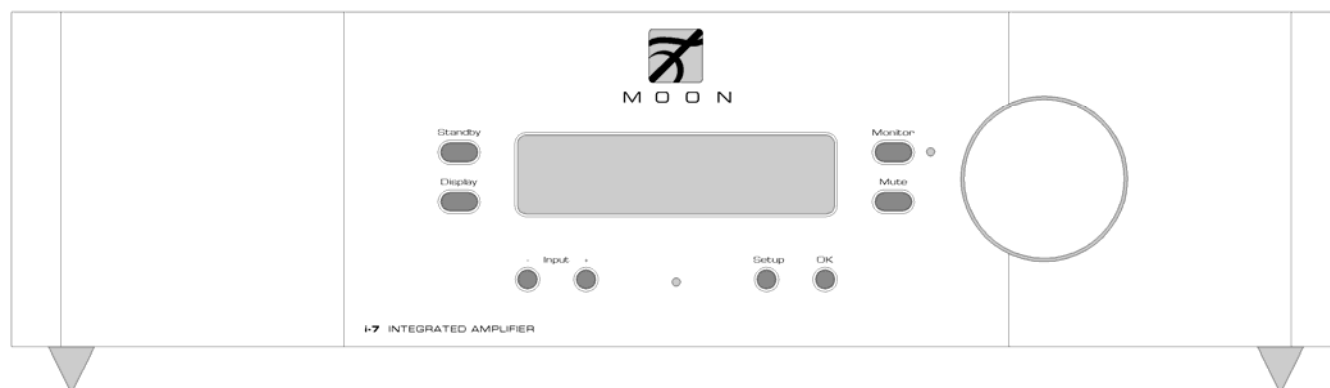

Figure 1: Front panel of MOON i-7 dual-mono Integrated Amplifier
The front panel will look similar to Figure 1 (above). The large display window normally indicates the current volume level and, whenever you change the input, it will briefly show the selected input label. On each side of the display window, are two (2) buttons. On the right side is a large rotary volume control. As well, there are four buttons (4) directly below the window, for a total of eight (8) which are all described in detail below: